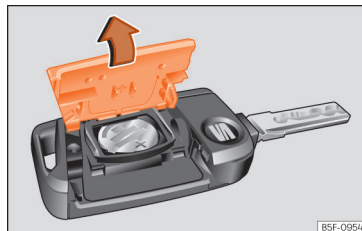

Fig. 83 Vehicle key: opening the battery compartment cover.
- Remove the cover from the back of the vehicle key »» Fig. 83 in the direction of the arrow »» ❶.
- Fit the cover as shown »» Fig. 83, pressing it onto the vehicle key casing in the opposite direction to that shown by the arrow until it clicks into place.